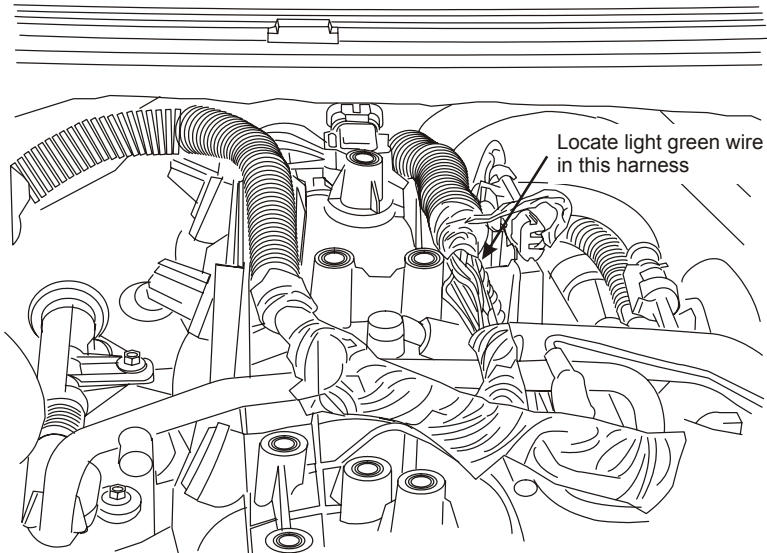

Figure 1.1
- Locate the wiring harness that runs up from the transmission and over the center of the engine intake manifold, through the trough on the driver's side of the intake (Figure 1.1).